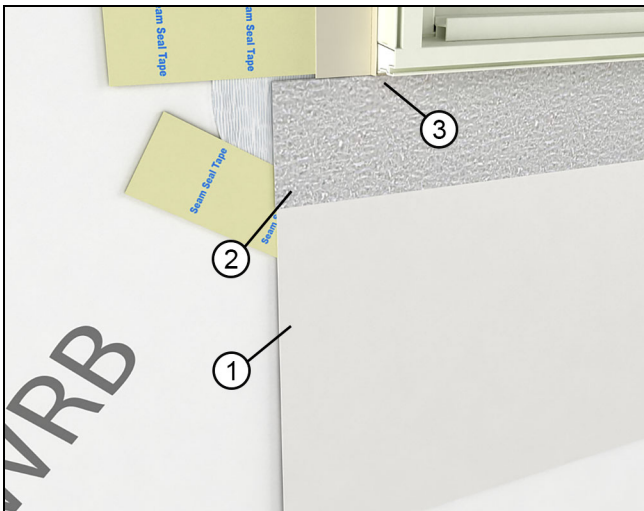

Figure 11
5. **Optional Skirt:** Install an optional "skirt" in applications with exposure to wind driven rain/climate. Use flashing material or a 12" (305) strip of WRB and attach to the sill of the window with seam seal tape or flashing tape. See Figure 11.